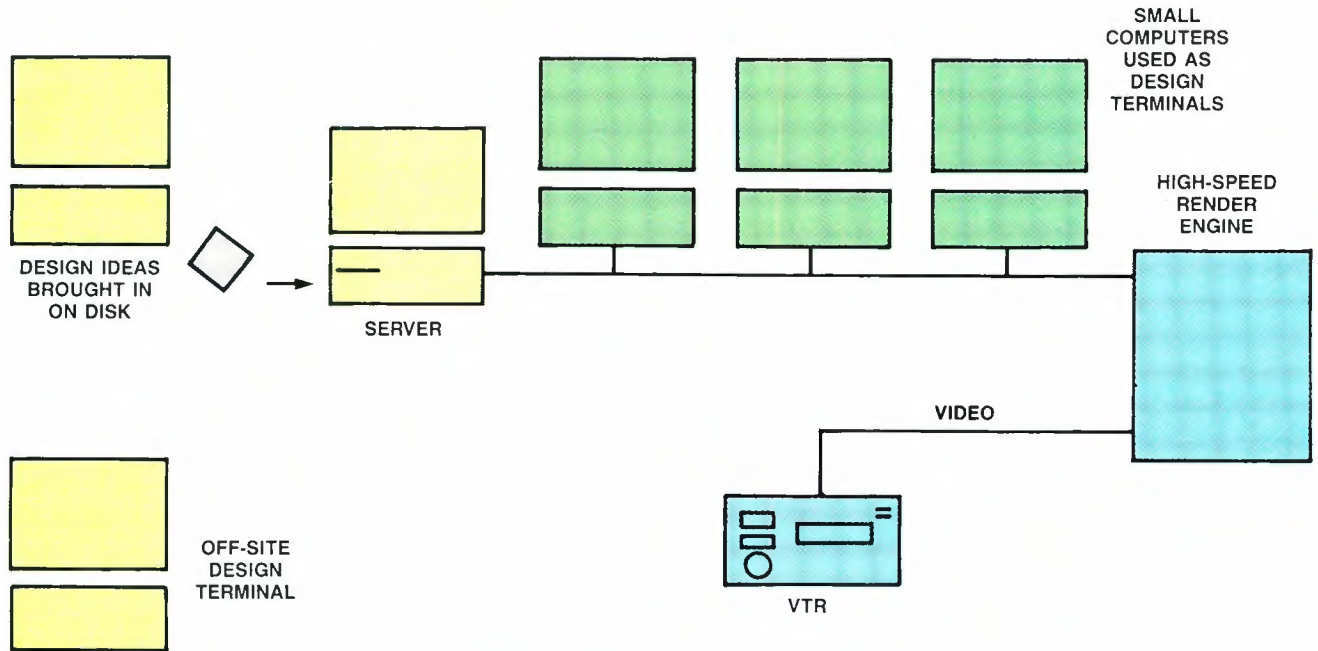

Figure 2. A LAN allows several small PC-based design stations to feed one large rendering engine.
Such a network is economical in that many design stations can be accommodated and the terminals need not be located on site. (See Figure 2.)
To convert 44.1kHz to 48kHz, the 44.1kHz must first be multiplied up, then decimated back down to the desired frequency. (See Figure 2.) Fortunately, this can be done in stages. The sampling ratio (R) can be written as: